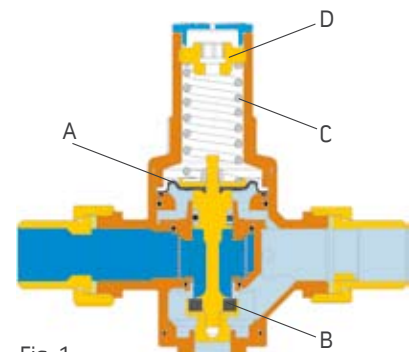

Fig. 1
- Fig. 1 Remove the cover plug